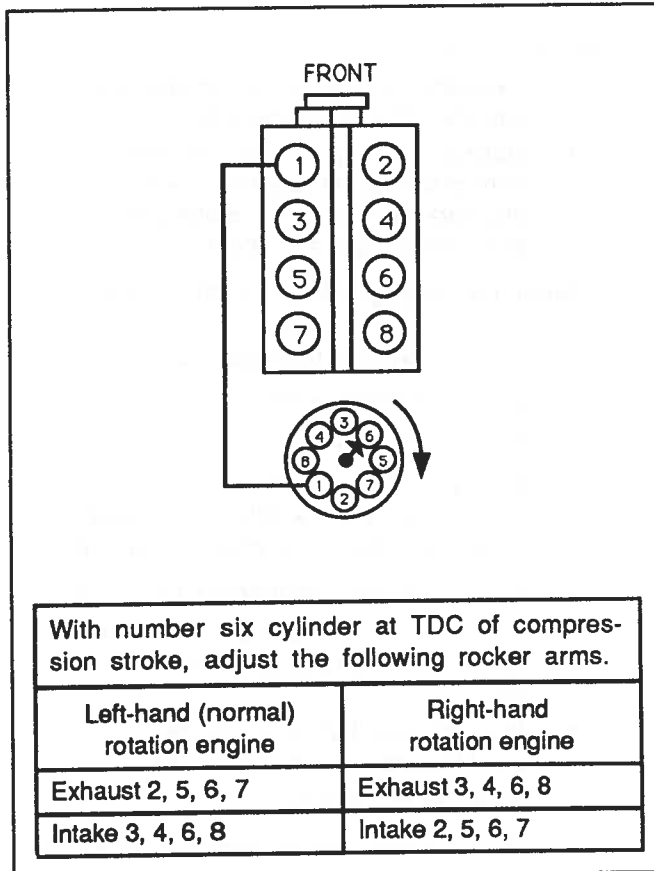

Figure 8-199. Adjusting Rocker Arms With No. 6 Piston At TDC Of Compression Stroke
5. Crank engine one revolution until pointer "0" mark and torsional damper mark are again in alignment. This is No. 6-firing position. With engine in this position, the valves indicated in Figure 8-199 may be adjusted as previously outlined.